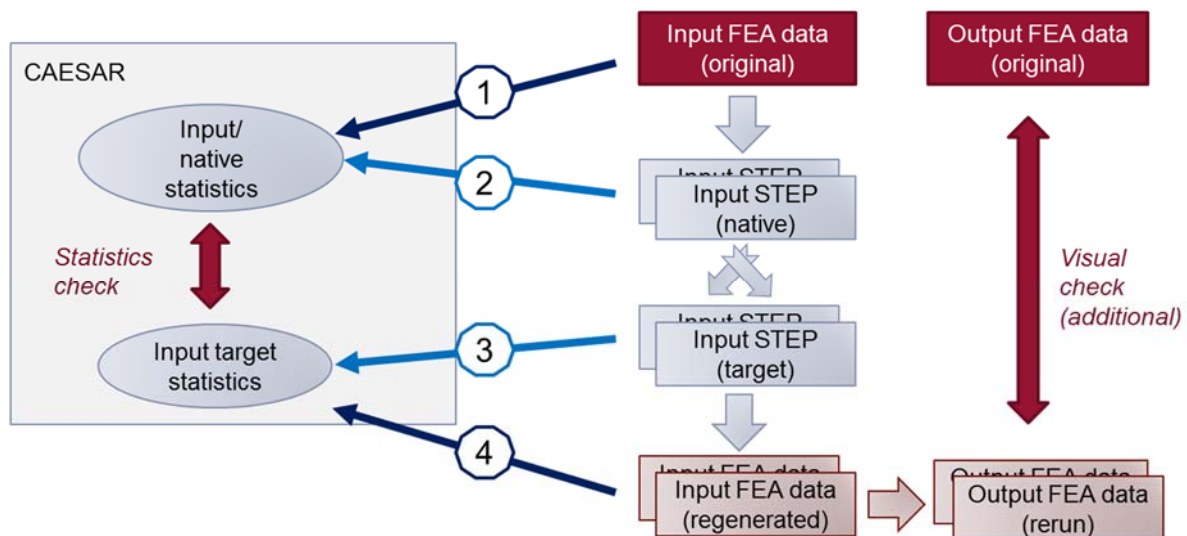

Figure 1: CAE-IF round trip process
More precisely, the required activity will comprise the following steps (see Figure 1):
Therefore, the "native statistics" and "target statistics" (indicated (2) and (3) in Figure 1) will be submitted to the CAESAR system according to the regular process described in the 'General Testing Instructions', while statistics from original input data and regenerated input data (indicated (1) and (4) in Figure 1) will be submitted by the CAE-IF facilitator.